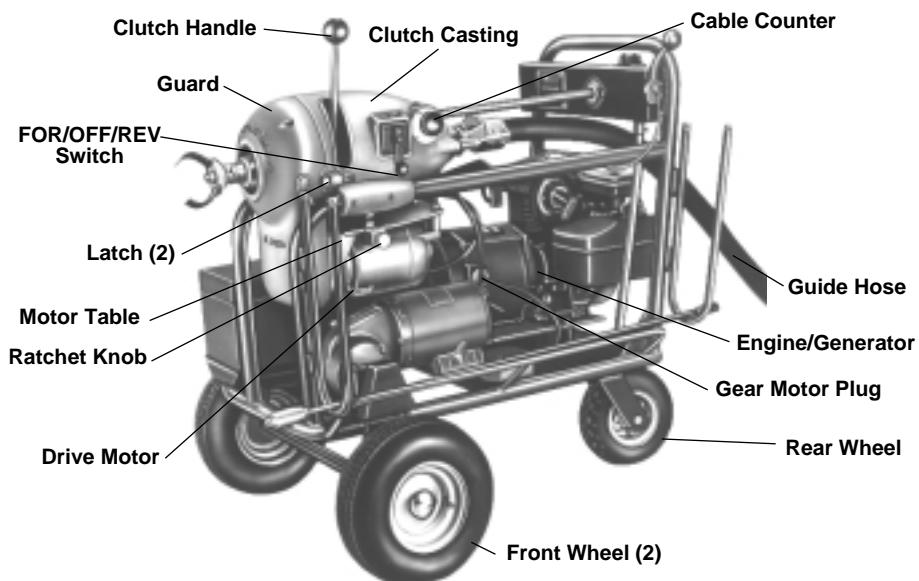
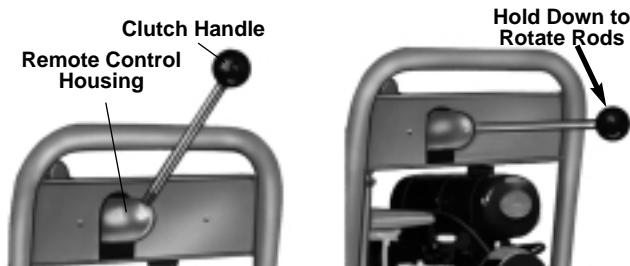

Figure 3 – K-2000 Machine with Cable Guide Hose and Clutch Handle in Clutch Casting
Figure 9 – Clutch Handle in Remote Control Housing
2. Engage drive clutch and lock **rear wheel** (*Figure 9*) in straight position for stability. Unplug **gear motor** from **engine/generator** (*Figure 3*).
3. Release two latches (*Figure 3*) and remove **guard** on front of machine.
4. Pull **ratchet knob** (*Figure 3*) on **motor table** and raise table. Lock in highest position by giving **ratchet knob** one-half turn.
8. Screw **clutch handle** (*Figure 3*) into **clutch casting**.
9. Attach **cable guide hose** (*Figure 3*).
1. Place **FOR/OFF/REV SWITCH** (*Figure 3*) in **FOR** position.
2. Pull **ratchet knob** (*Figure 3*) on **motor table** and raise table. Lock in highest position by giving **ratchet knob** one-half turn.
6. Screw clutch handle into remote control housing (*Figure 9*).
16. Lock rear wheel with **locking pin** (*Figure 3*).
2. Hold clutch handle (*Figure 9*) down maintaining firm pressure to rotate rods.